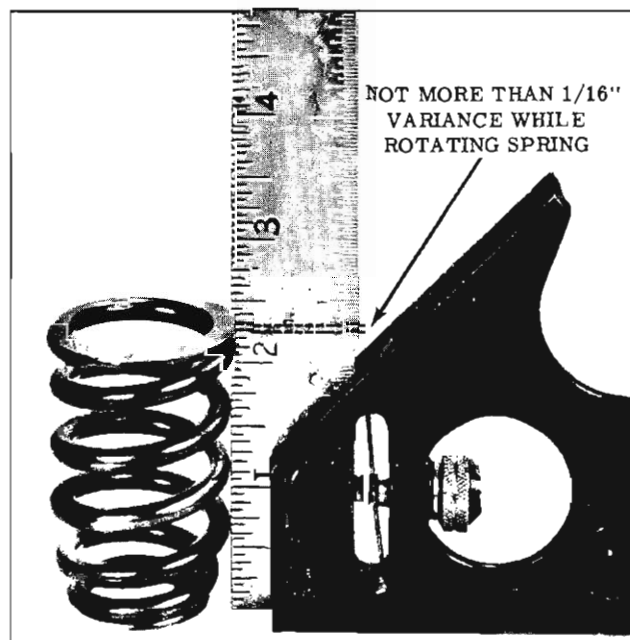

Fig. 3-19 Checking Valve Spring for Distortion
- a. Occasionally this noise can be eliminated by rotating the valve spring and valve. Crank engine until noisy valve is off its seat. Rotate spring 90°. This will also rotate valve. Repeat until valve becomes quiet. If correction is obtained, check for an off-square valve spring. If spring is off square more than 1/16" in free position, replace spring. (Fig. 3-19)